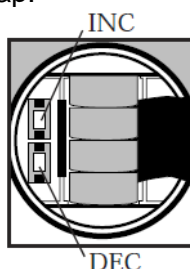

Figure 1. Increase and decrease keys in Oakton ECTestr battery compartment.
1. Open the battery compartment lid. The two white buttons are increment (INC) and decrement (DEC) calibration keys (figure 1).